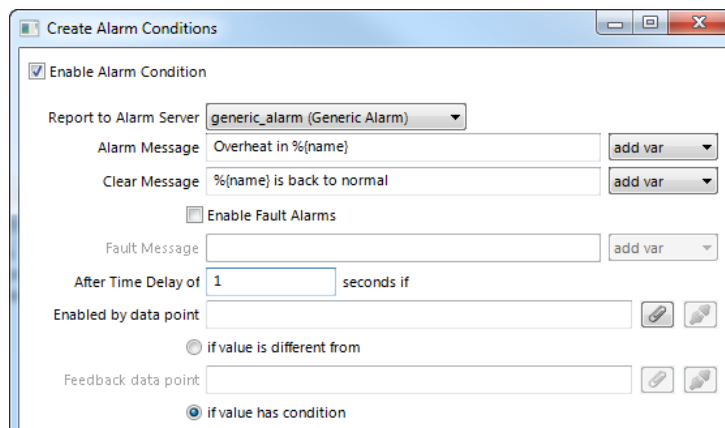

Figure 28: Common settings for an alarm condition.
3. For the alarm condition, edit the following definitions which apply to all condition types as shown in Figure 28. Select the **Alarm Server** which the alarm shall be reported to. Typically, you will choose a generic alarm server.